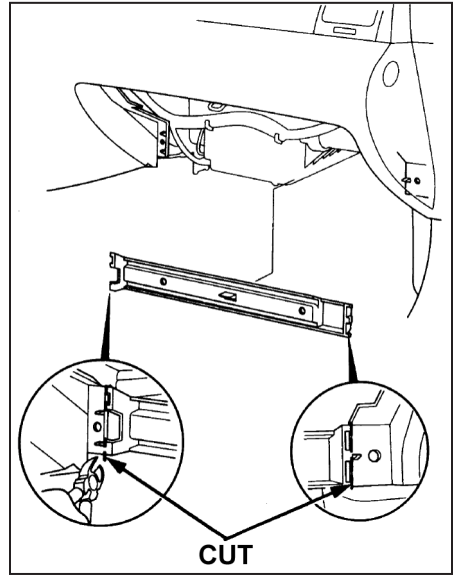

Fig. 1
2. Remove the glove compartment support and carefully trim the support as shown. (See Fig. 1)